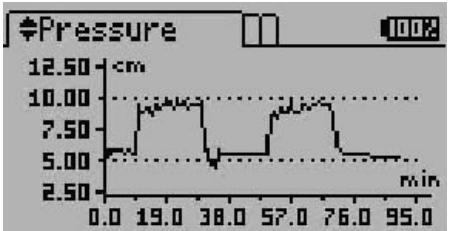

Figure 19 Pressure screen
- **Pressure Screen.** The Pressure screen displays the hydrostatic pressure (combined air and water pressure) on a graph updated every minute (Figure 19). The current measurement is indicated by a flashing dot.